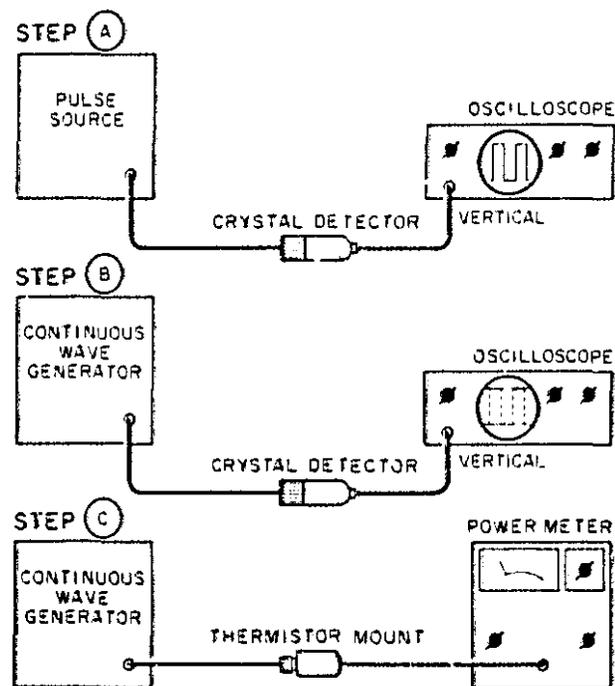

Figure 1. Peak Power Measurement
25. The power applied to the detector can be either modulated or continuous wave (CW). If modulated at a 1000 Hz rate, an SWR meter can be used as an indicator. For CW detection, a dc milliammeter or millivoltmeter can be used as the indicator.
27. **Peak Power Measurement.** The arrangement of equipment for peak power measurement is shown in Figure 1. The procedure involves calibration of an oscilloscope which, in turn, is used to calibrate a CW generator. The output of the calibrated CW generator is measure with a power meter; the peak power of a pulse is thereby measured. The procedure is as follows:
- Connect equipment as shown in Figure 1, step a. Observe pulse on a dc-coupled oscilloscope. Using a marking pencil, mark on the graticule the base-to-peak amplitude of the pulse envelope.